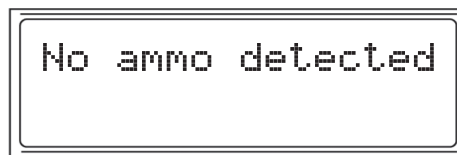

Fig. 30
- **No Ammo Detected:** When the hopper is running low or without ammo, it will display the “No ammo detected” message (*Fig. 30*). Load more ammo into the hopper and continue the loading process.